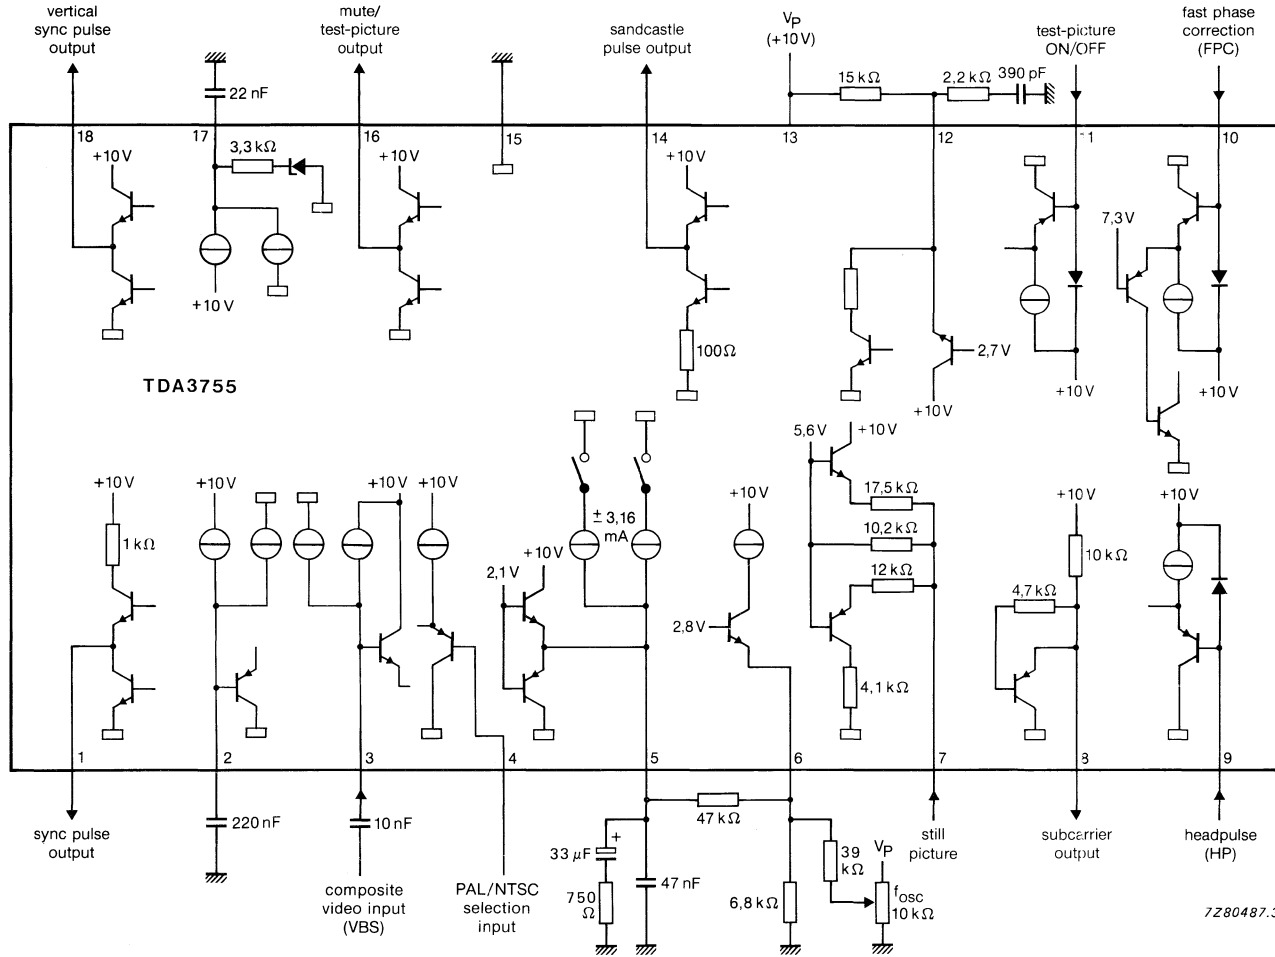

Fig. 4 Application circuit diagram.
$V_p = 10 \text{ V}$; $T_{amb} = 25 \text{ }^\circ\text{C}$; measured in Fig. 4; unless otherwise specified
10. The timing of the upper part of the sandcastle pulse is determined by the components connected to pin 12 (Fig. 4) and is independent of supply voltage variations.